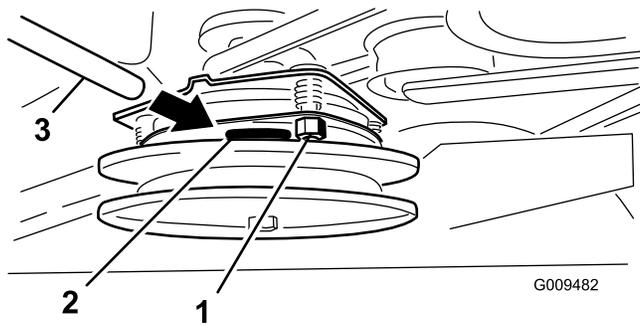

Figure 60
3. Tighten the lock nuts until there is slight binding on the feeler gauge, but it can be moved easily within the air gap (Figure 60).